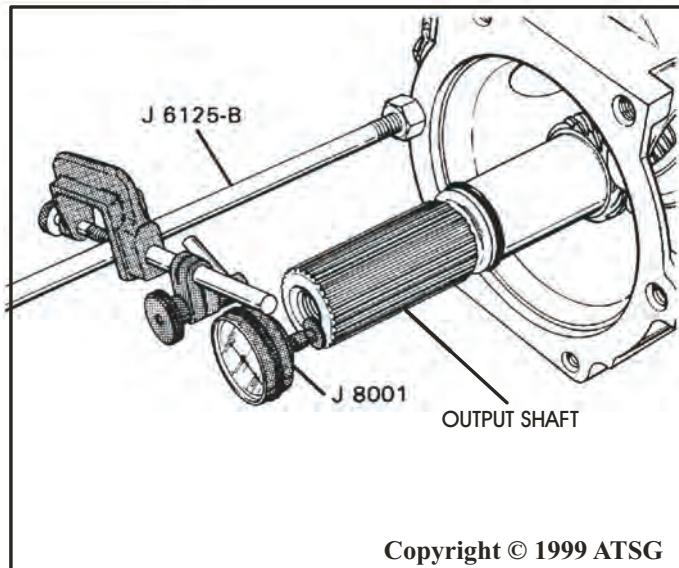

Figure 116
28. Install J-6125 slide hammer bolt in hole of the case, as shown in Figure 116.